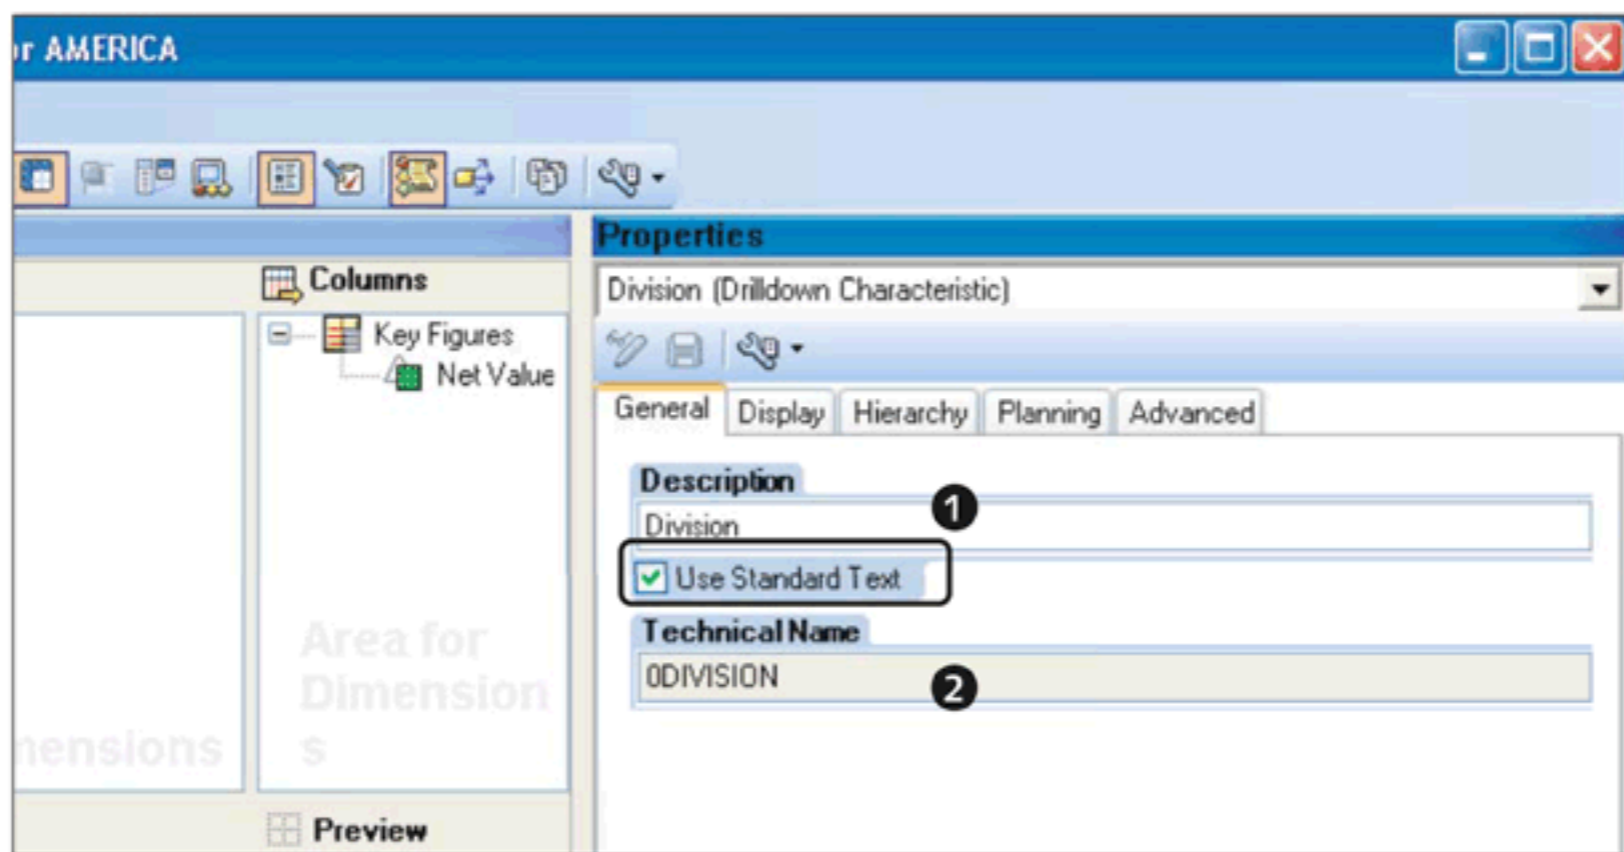

Figure 9.68 Characteristic Properties: General Tab
The properties for the selected characteristic element will appear in the PROPERTIES area, as shown in Figure 9.68. There are five different tabs available. Let's discuss each of these tabs one by one.
In the GENERAL tab (see Figure 9.68), you maintain the DESCRIPTION of the characteristic of that query. The same description (❶) will be visible in the query output when the query is executed. If you select the USE STANDARD TEXT checkbox, the description as mentioned in the InfoObject definition is selected.